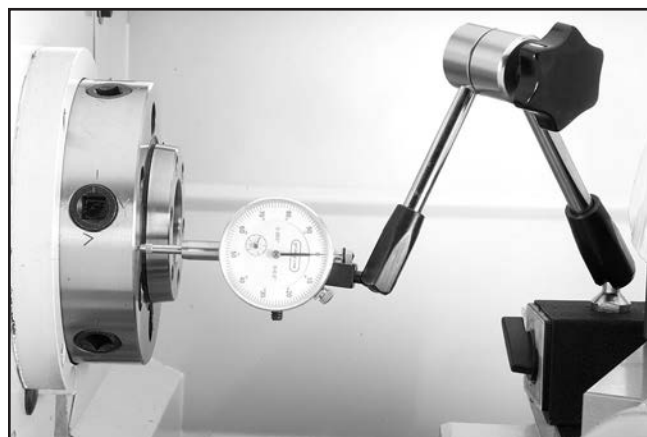

Figure 118. Dial indicator setup.
9. Place dial indicator on cross slide and move carriage toward headstock until contact point of indicator touches spindle face, as shown in **Figure 118**.